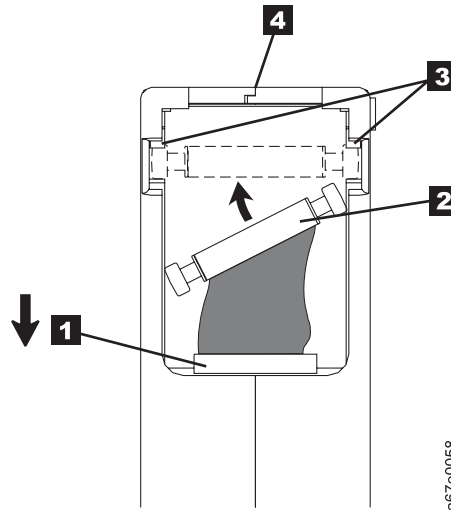

Figure 52. Placing the dislodged leader pin into the correct position. The cartridge door is open to show the leader pin.
1. Slide open the cartridge door (**1** in Figure 52) and locate the leader pin (**2**). You may need to shake the cartridge gently to roll the pin toward the door.